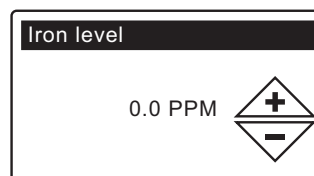

FIG. 21
- 11. IRON LEVEL** Press the UP (▲) or DOWN (▼) buttons to set the value for iron in your water (See Figure 21)